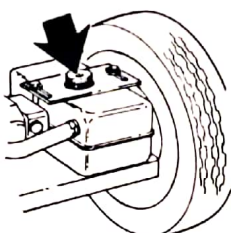

Figure 8
**Step 4)** Pour 4 quarts of oil into reservoir. Replace reservoir cap, but leave loose to allow air to escape from the hydraulic system. (Fig. 8)